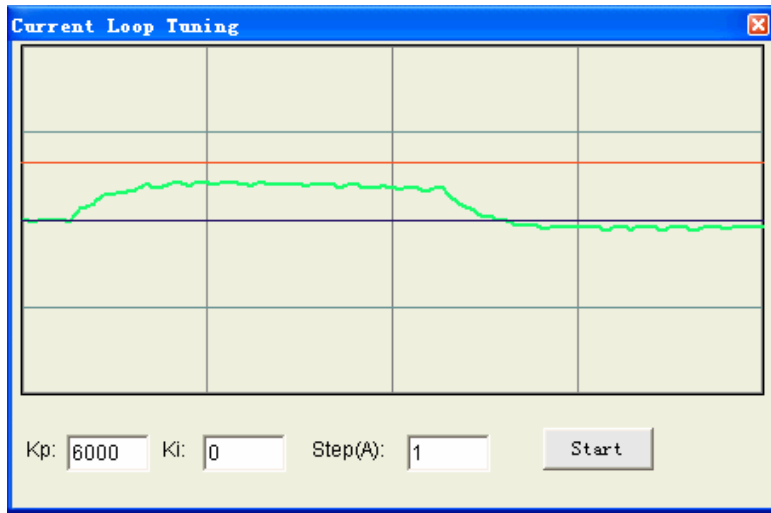

Figure3-3: Current loop tuning with with $K_p=6000$, $K_i=0$
Step 3: Increase K_p to 6000 and click Start. The gap between target value and actual value is smaller but a higher K_p is needed. See figure 3-3.